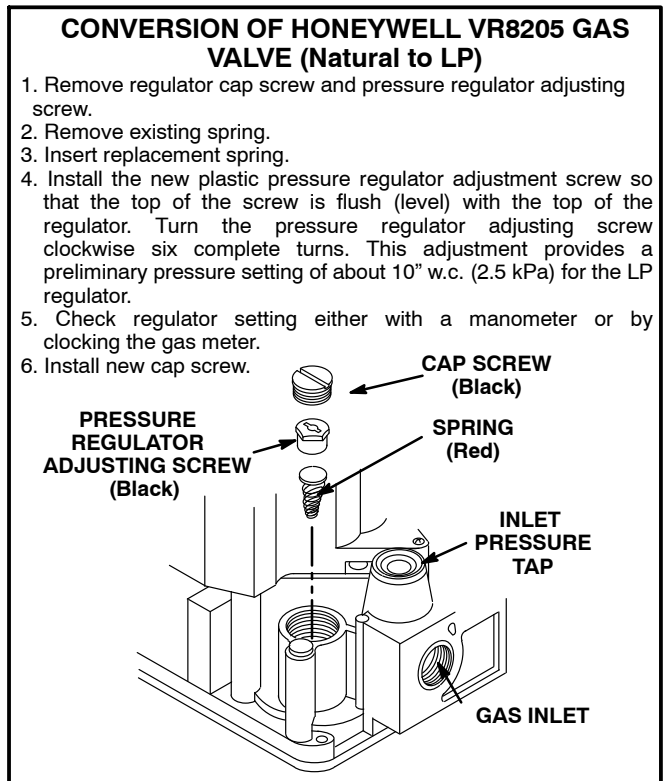

FIGURE 3
- 9- Install gas valve conversion kit. Refer to manufacturer's instruction packed in valve conversion kit. See figures 3 and 4.
- 2- After gas line pressure has been checked and adjusted, check manifold pressure at the pressure tap on the outlet side of the gas valve. The correct manifold pressure for LP/propane gas is given in table 1. Refer to figures 3 and 4 for gas manifold pressure adjustment screw location.